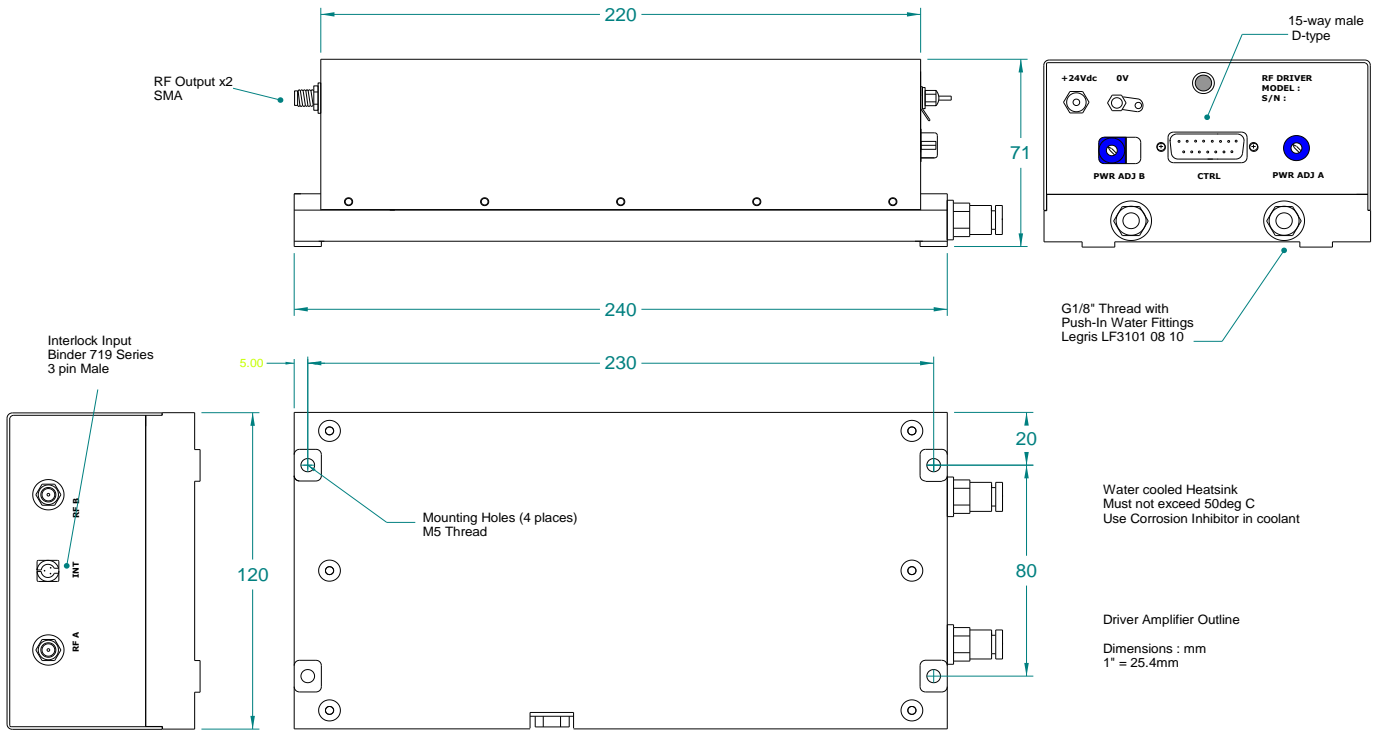

Figure 1: Driver Installation
- 3.1 Install the Driver on a heat sink as shown in figure 1. Connect cooling water.
- 3.2 With no d-c power applied, connect the positive (+) DC to the center terminal of the feed-thru terminal as shown in figure 1. Connect the 0V or ground connection to the earth tab.